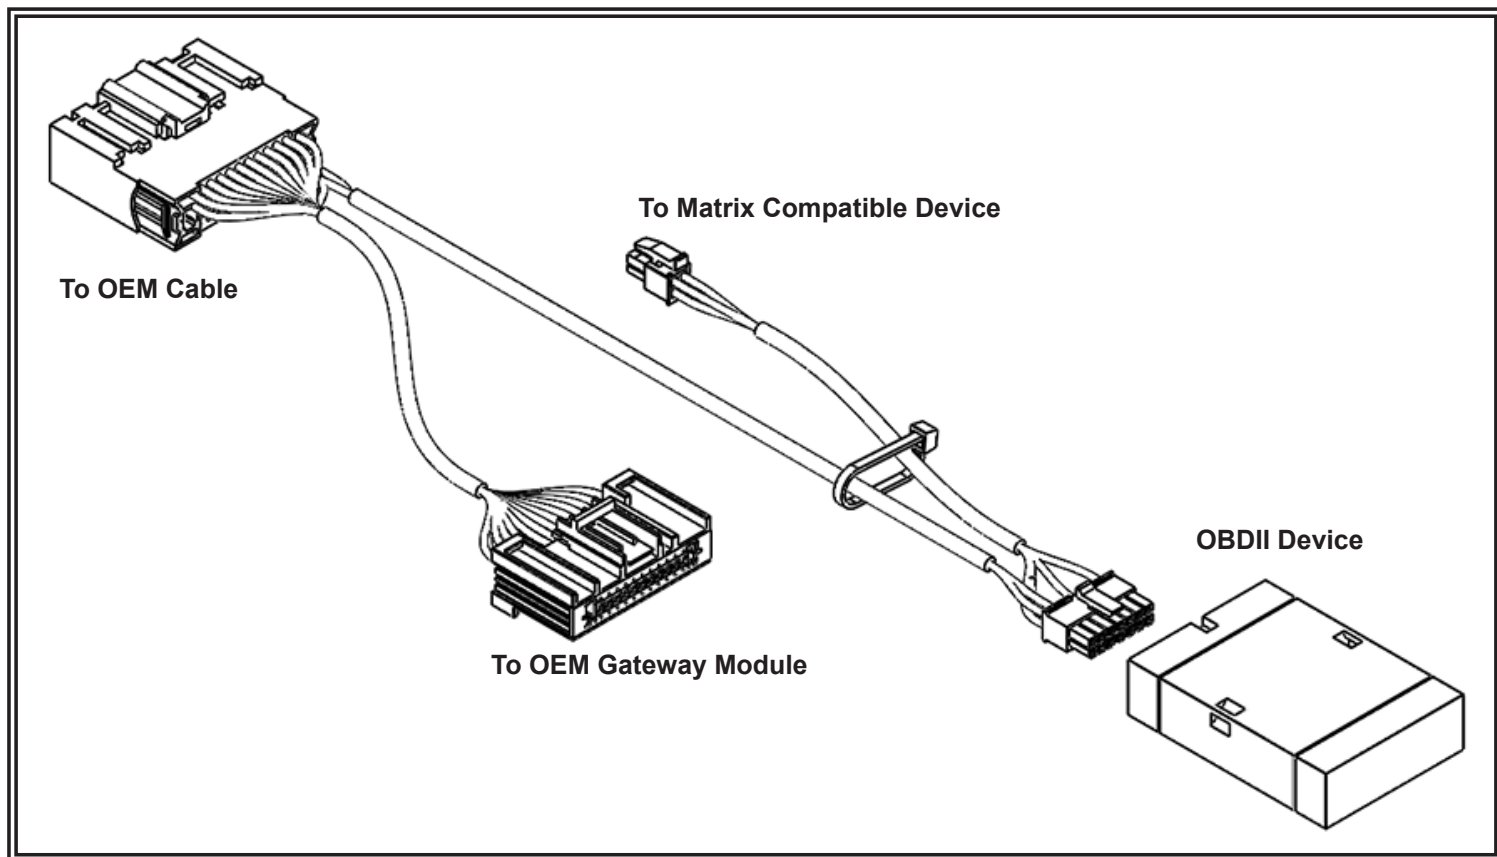

Figure 14
Step 8. The remaining, unused OBDII Harness connectors will be routed back to the OBDII Device and another Matrix® compatible device. See FIGURE 14 for further details.